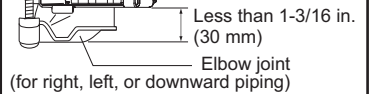

Fig. 2
- Fix conduit pipe (for rear piping) / elbow joint (for right, left, or downward piping) to conduit cover with lock nut. The thread part of installed conduit pipe / elbow joint appearing inside should be less than 3/8 in. (10 mm). (Fig. 1) Elbow joint should appear less than 1-3/16 in. (30 mm) outside. (Fig. 2)
- Pull out the drain hose at the rear left of the indoor unit. (Fig. 2)
- If the drain hose provided with the indoor unit is too short, connect it with drain hose (I) that should be provided at your site. (Fig. 2)